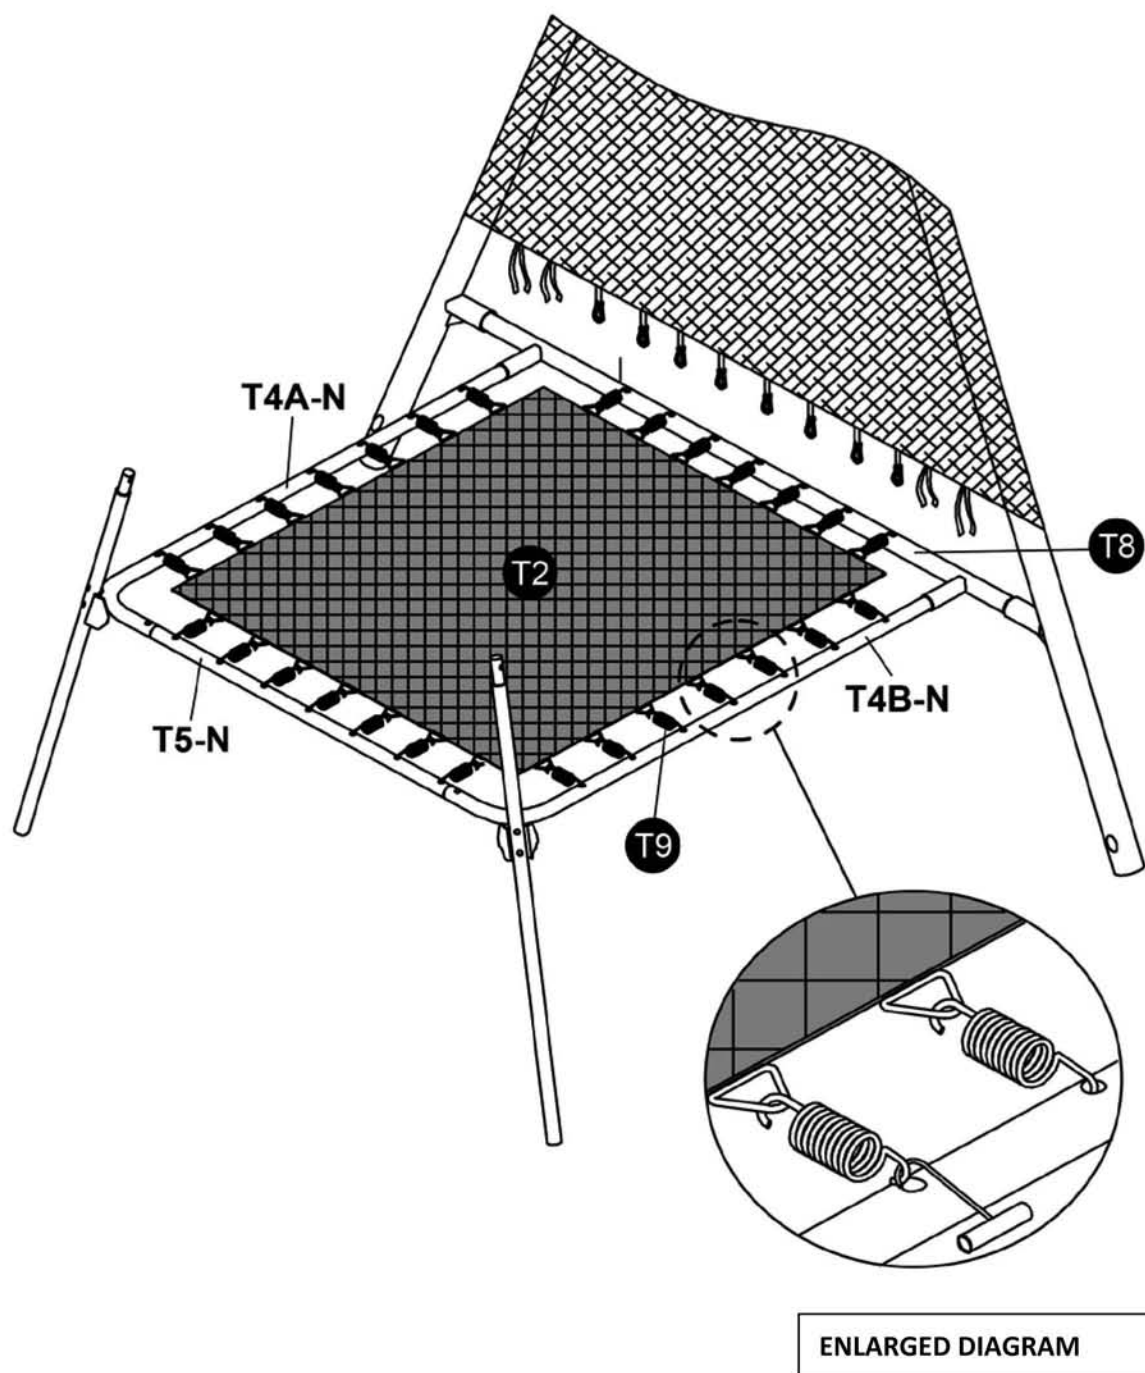

FIGURE 6
- Continue to install all remaining springs in the same manner until the mat is full installed, as shown in FIGURE 6.